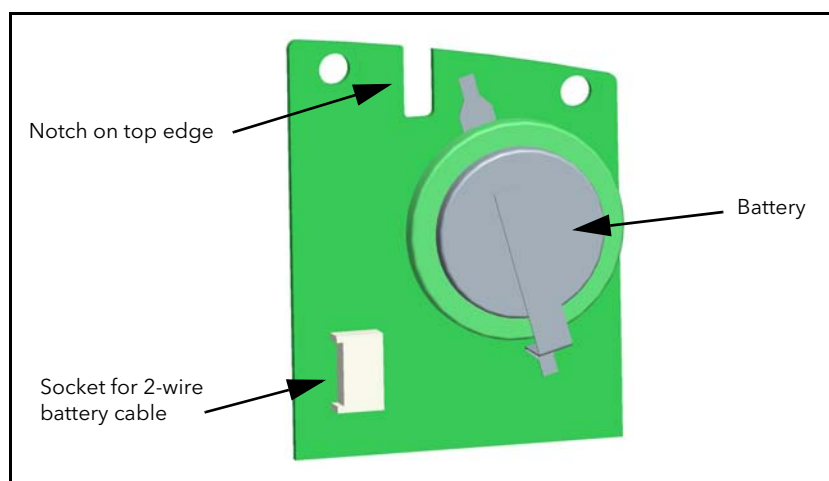

Figure C.3 New battery board
- Take the new battery board (Figure C.3), and plug the two-wire battery cable into it.